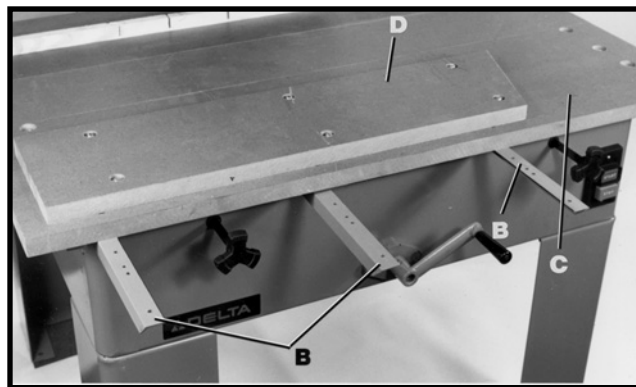
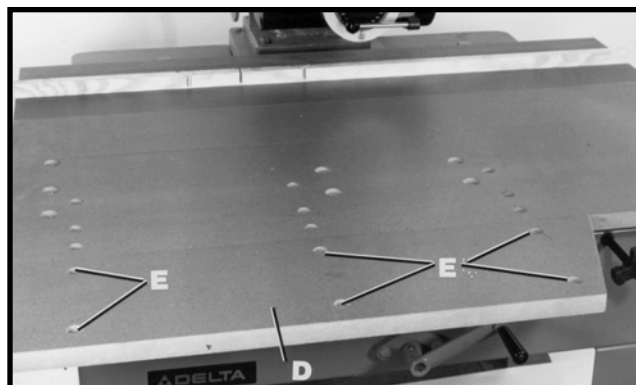

Fig. 16
Fig. 17
3. Fig. 16 illustrates three angle supports (B) assembled to the fixed table board (C).
4. Place the smaller angled table board (D) Fig. 16, on the angle supports (B) and fasten with six 1/4-20x7/8" round head screws and 9/32" flat washers shown at locations (E) Fig. 17.